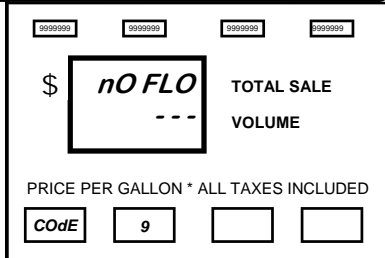

Figure 9.1
1. After the Manager's Mode has been accessed, press the 9 button and then the **MODE** button on the keypad. The main display on an un-programmed dispenser will appear as in Figure 9-1. This is the default. The price display shows the dispenser is in Menu Code 9.